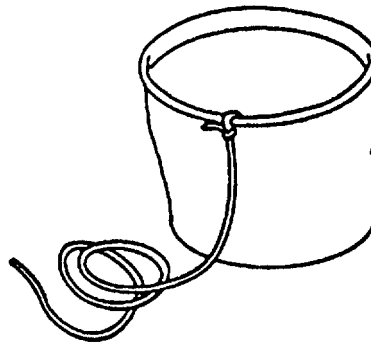

Figure 2-79. Boat Bailer
- be. Boat Bailer. The boat bailer (See Figure 2-79) is a 6 inch (15 cm) diameter rubber pail that is used to bail water from life rafts. Secure the bailer to the life raft with the attached lanyard.